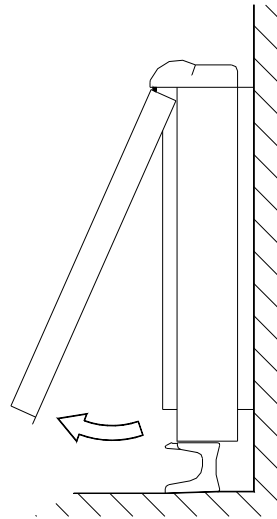

fig 2
3.- Take off the front panel by removing the two screws at the bottom of the heater (fig 2).